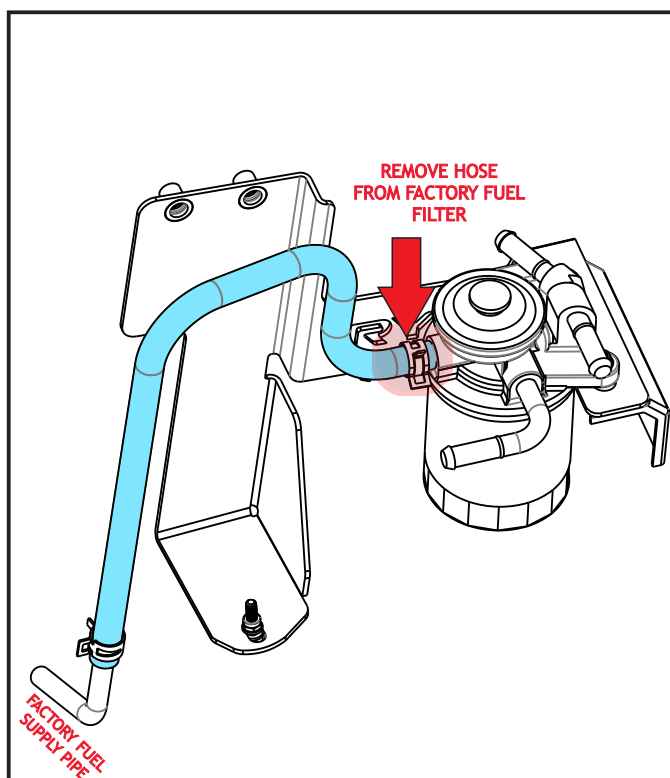

FIG. 5 FACTORY HOSE IDENTIFICATION
5. Locate the factory fuel inlet hose (coloured blue in Fig. 5) at the factory fuel filter. Loosen the factory fuel hose clamp and disconnect the fuel supply line from the factory filter. Have a rag ready to capture any diesel that may spill out of the fuel line and the fuel filter.
6. Trace the other end of the fuel supply line and disconnect it from the metal factory fuel supply pipe, as per Fig. 5. Remove the factory fuel supply line from the vehicle and store for safe keeping. Have a rag ready to capture any diesel that may spill out of the fuel lines.